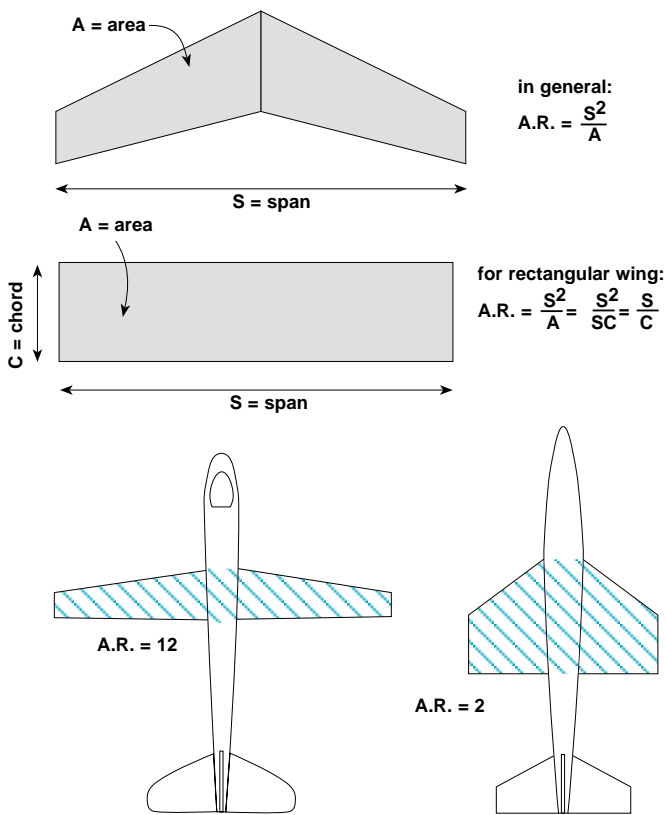

Figure 13 - Aspect ratios of wings
*aspect ratio* of the wing. Aspect ratio is a measure of how long & skinny or short & stubby the wing is (see figure 13). Because the induced drag is caused by flow around the wing tips, it is strongest near the tips and decreases toward the center. High aspect ratio wings have more of the wing area far from the tips, so they produce lower induced drag. Full size sailplanes use very high  $A.R.$  wings for this reason. But there is a trade-off: High aspect ratio wings are weaker and prone to structural failure at the high speeds that boost gliders experience during boost phase. As a result, boost gliders wings typically have aspect ratios below 7 (but designs such as swing wings or flap wings, discussed later, can use higher  $A.R.$  wings).